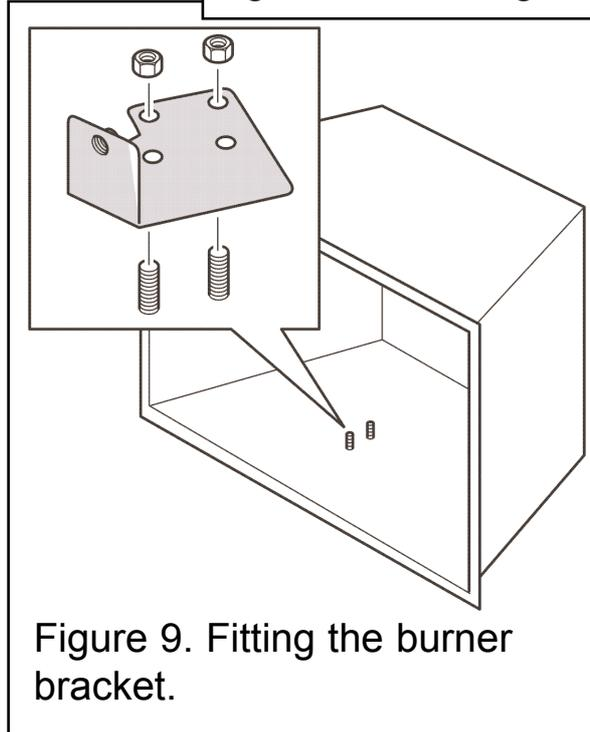

Figure 9. Fitting the burner bracket.
2. Supplied with the chamber box is a replacement burner support bracket. There are four holes in this bracket. Locate the two left hand holes over the two threaded studs in the base of the chamber box (See figure 9) . Secure the bracket in place using the nuts supplied. (See figure 9).